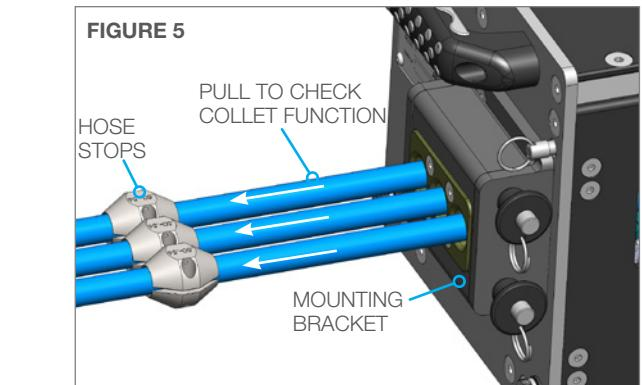

FIGURE 5
5. Pull on the hoses from the back of the AUTOBOX® (ABX-3L-V2) Hose Tractor to ensure that the Collet does not allow the waterblast tool back out of the Guide or Hose Tractor. (**Figure 5**)
6. To install hose stops, push waterblast tools through the exchanger until the tips are 1-2" (25-51 mm) past the end of the tube bundle. Loosely install the stop, then push toward the mounting bracket and tighten in place. (**Figure 5**)